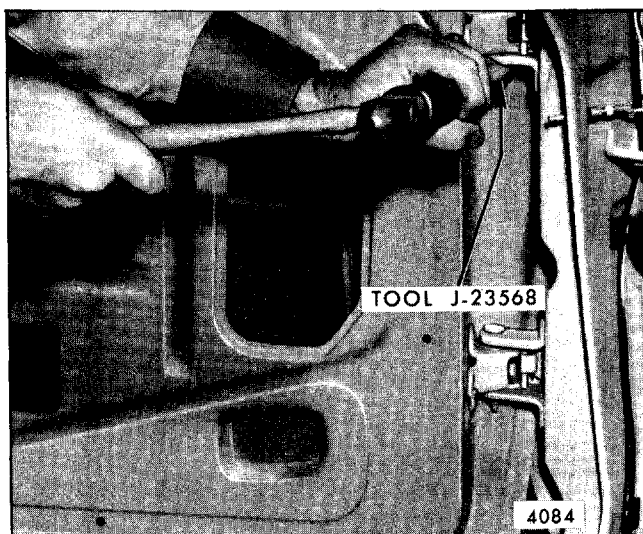
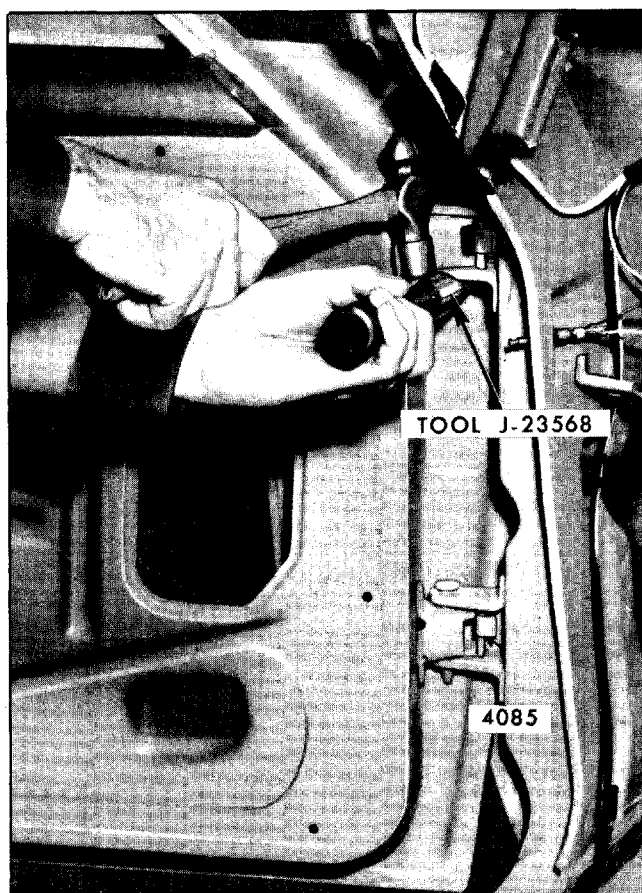

Fig. 5-100-Door Hinge Pin Removal - "H" Styles
Fig. 5-101-Door Hinge Pin Removal - "H" Styles
1. Using tool J-23568 or equivalent and the aid of a helper to support the door in an open position, drive wedge between the head of the hinge pin and the upper hinge as shown in Figure 5-100. Driving wedge at this location will partially remove the hinge pin from the hinge assembly. To completely remove the hinge pin, tap on the hinge pin removing tool as shown in Figure 5-101. Repeat operation outlined above on lower hinge.